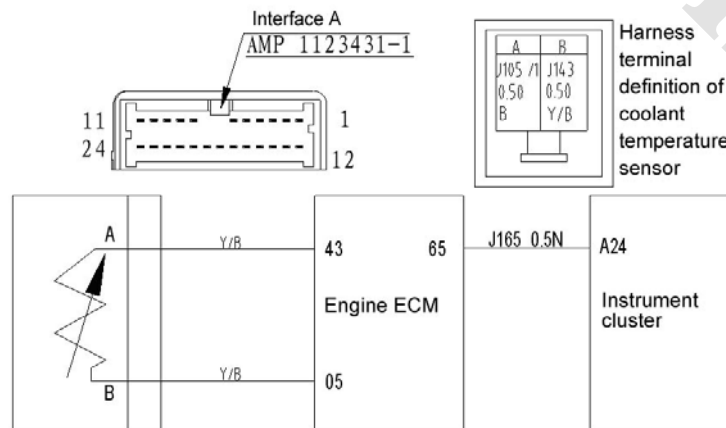

Fig. 4-24
(2) Check the circuit as shown in Fig. 4-24.